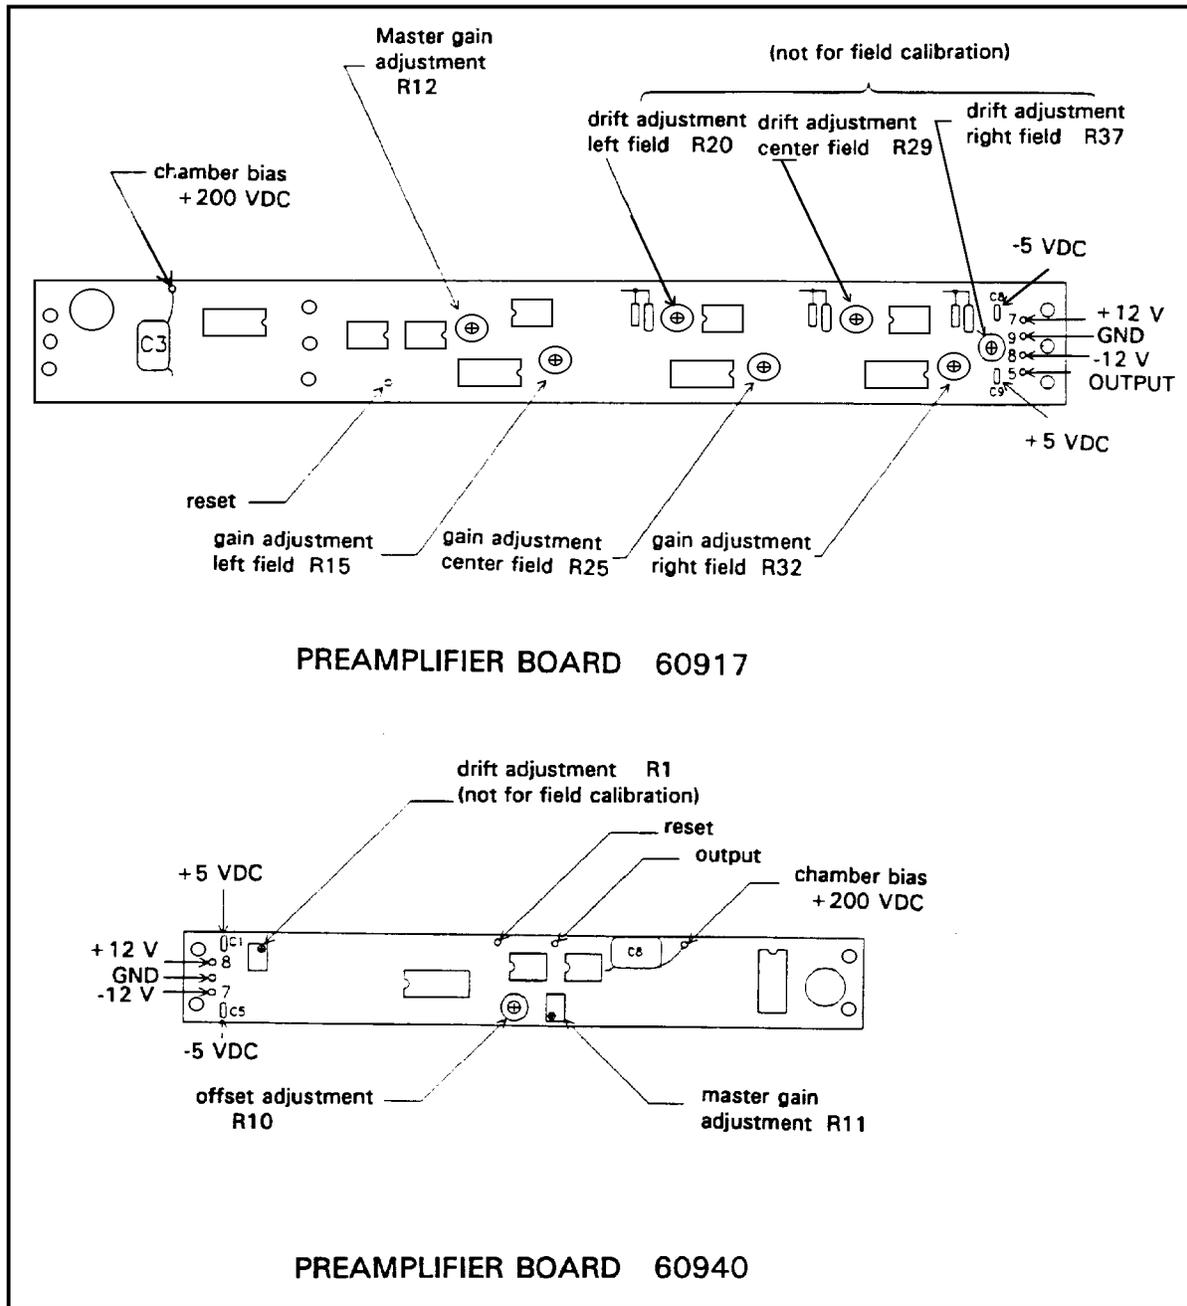

Figure 3-86
**NOTE:** Field matching is based on the optical density (OD) of actual exposures rather than on mAs readings because of the effects of grids, anode-heel effects and back scatter. Therefore, it will be necessary to make exposures, process films, and measure optical densities in order to precisely match the three fields.
**NOTE:** Refer to Figure 3-86 for preamplifier field gain adjustment locations. Set the X-ray generator at 100 kVp, 100 mA large focal spot, and 5 second backup. Select density N (normal). Select center field alone.
- (1) Position the phantom (10 inches of water or equivalent) as described in step 7b.
- (2) Place a cassette loaded with an unexposed sheet of film in the cassette holder. Make an X-ray exposure. Record the mAs reading on the AEC 61017 display board.
- (3) Develop the film. Measure and record the average OD near the center of the exposure. Mark this film CENTER.
- (4) Select Left Field alone and repeat steps 7d(3) and 7d(4). Mark this film LEFT.
- (5) Select Right Field alone and repeat steps 7d(3) and 7d(4). Mark this film RIGHT.
- (6) Compare the optical densities of the films for the three fields.
- (b) If the optical densities of the three films are not within 10% of each other, make adjustments to the appropriate field gain adjustment on the 60917 Preamplifier board and repeat steps 7d(2) through 7d(6), as needed.
(7) Repeatedly make exposures with the loaded film cassette until adjustment of the preamplifier gain 60899 R14 produces the mAs reading calculated in step 7e(6). Repeat steps 7e(3) through 7e(5).
**NOTE:** If there is insufficient gain adjustment at 60899 R14, it may be necessary to adjust the preamplifier master gain and repeat steps 7e(3) through 7e(5). Refer to Figure 3-86 for preamplifier master gain adjustment location.
- (1) Select Density N (Normal).
- (2) Select Center Field alone.
- (3) Set the generator at 100 mA large focal spot and 5 second backup.
- (4) Select one of the generator kVp settings and a corresponding phantom thickness from Table 3-11.
- (1) Refer to step 7b for calibration/test set-up.
- (2) See Figure 3-86 for preamplifier gain adjustment location.
- (3) Set the X-ray generator at 100 kVp, 200 mA large focal spot, and 5 second backup.
- (4) Position the phantom (10 inches of water or equivalent). (See step 7b.)
- (5) Place a cassette loaded with an unexposed sheet of film in the cassette holder. Select <1-On-1> format, with AUTO SHUTTER ON. Make an X-ray exposure. Record the mAs reading on the AEC 61017 display board.
- (6) Develop the film. Measure and record the average OD near the center of the exposure.
- (7) Determine an approximate value of mAs to correspond to  $OD = 1.20$  by using the following equation:
- (8) Repeatedly make exposures with the loaded film cassette until adjustment of the preamplifier gain produces the mAs reading calculated in step 7g(7).
- (9) Repeat steps 7g(5) and 7g(6).
- (10) See Figure 3-86 for preamplifier master gain adjustment location.